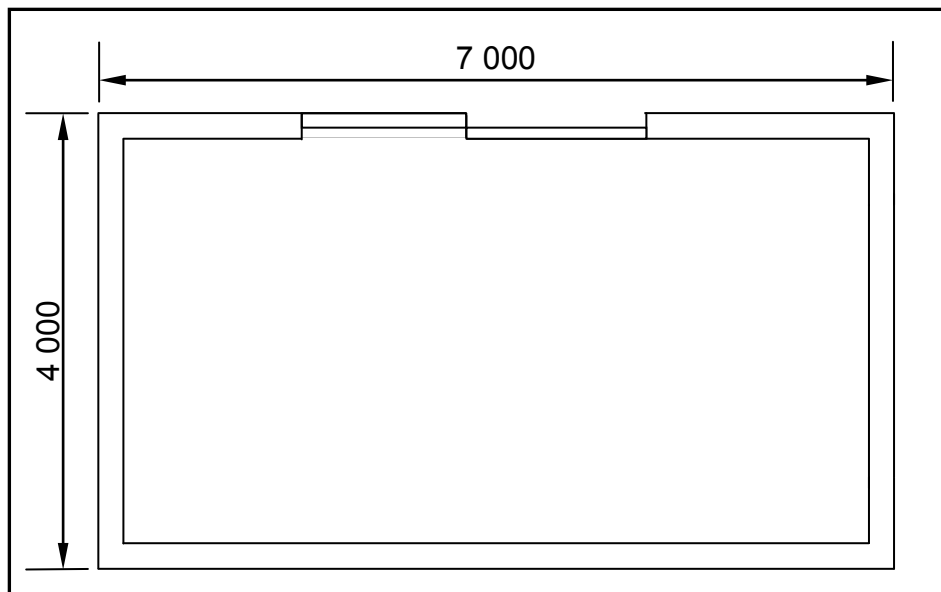

FIGURE 4.6
4.6 FIGURE 4.6 below shows the floor plan of a room. You must install ceiling boards and skirtings in this room.